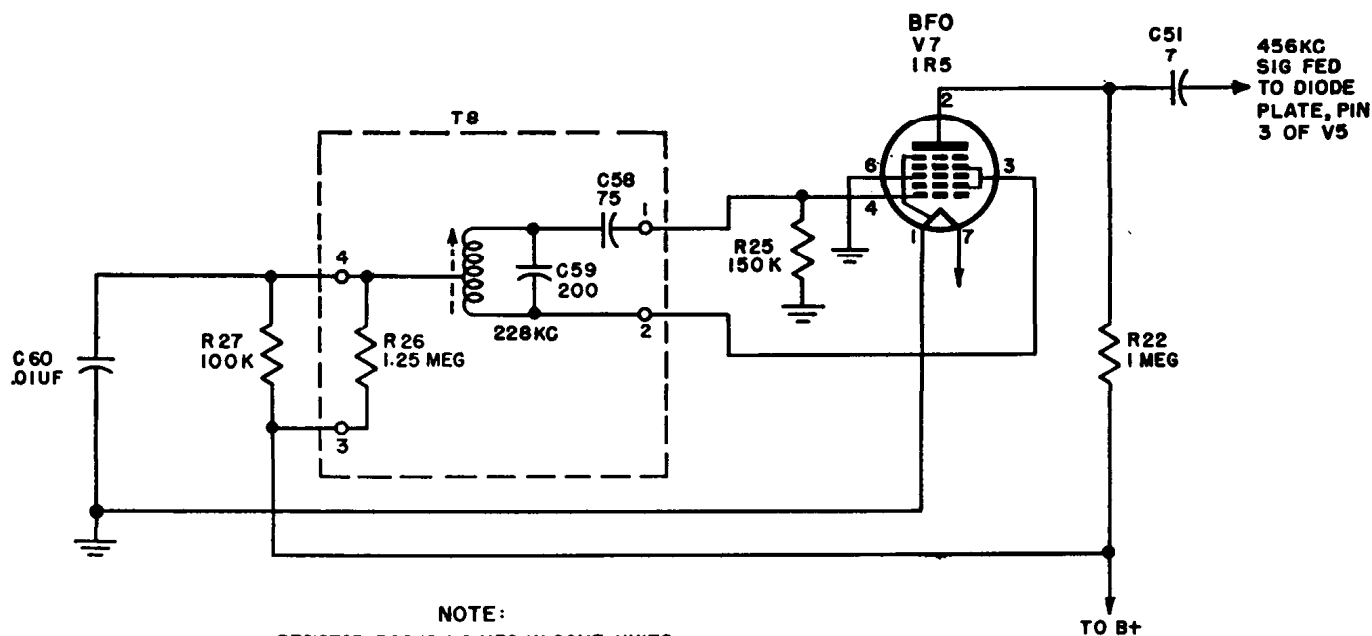

Figure 64. Beat-frequency oscillator, simplified schematic diagram.
94. Beat-Frequency Oscillator (fig. 64)